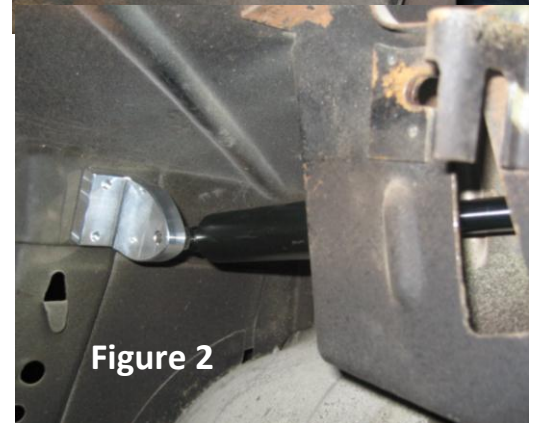

Figure 2
7. Using the 1/4" bolts and washers provided, install the new ball stud brackets to the trunk divider with the ball stud facing the outside of the car (figure 2).